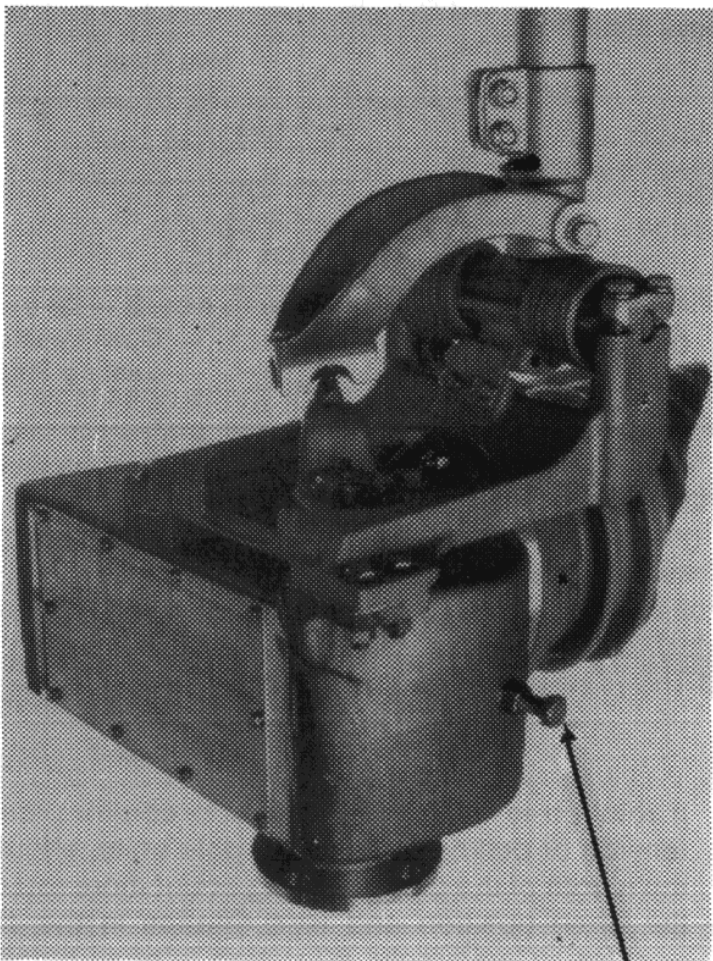

Figure 38 -- Charging Bolt
- 4. If it is found necessary to adjust the shunt trip gap, the charging bolt in the driver housing controls the gap position. Reducing excessive gap is done by backing out the charging bolt as shown in Figure 38 while observing gap position. Increasing gap is done easier if the Circuit Switcher is hand cranked about 5 turns towards the close direction to remove the load from the charging bolt. It is recommended that the charging bolt be turned in about 1/2 turn and then the unit be hand cranked back full open to recheck gap position.